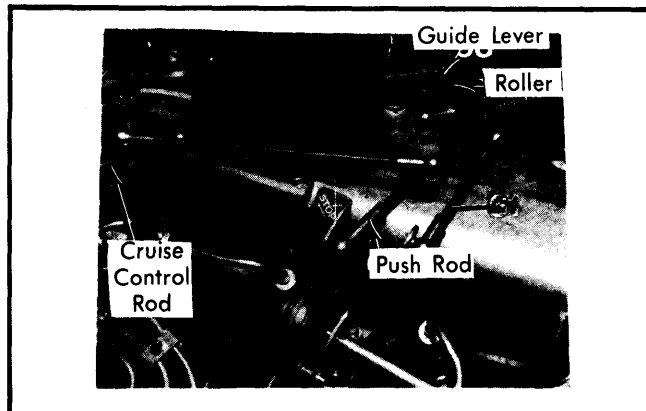

Fig. 5 Injection Linkage Adjustment (Turbo Models)
4) On Turbo models, adjust push rod so roller in guide lever rests free of tension against end stop. Disconnect cruise control connecting rod and push lever against idle speed stop. Reattach connecting rod so lever has .039" (1 mm) clearance from stop. See Fig. 5.